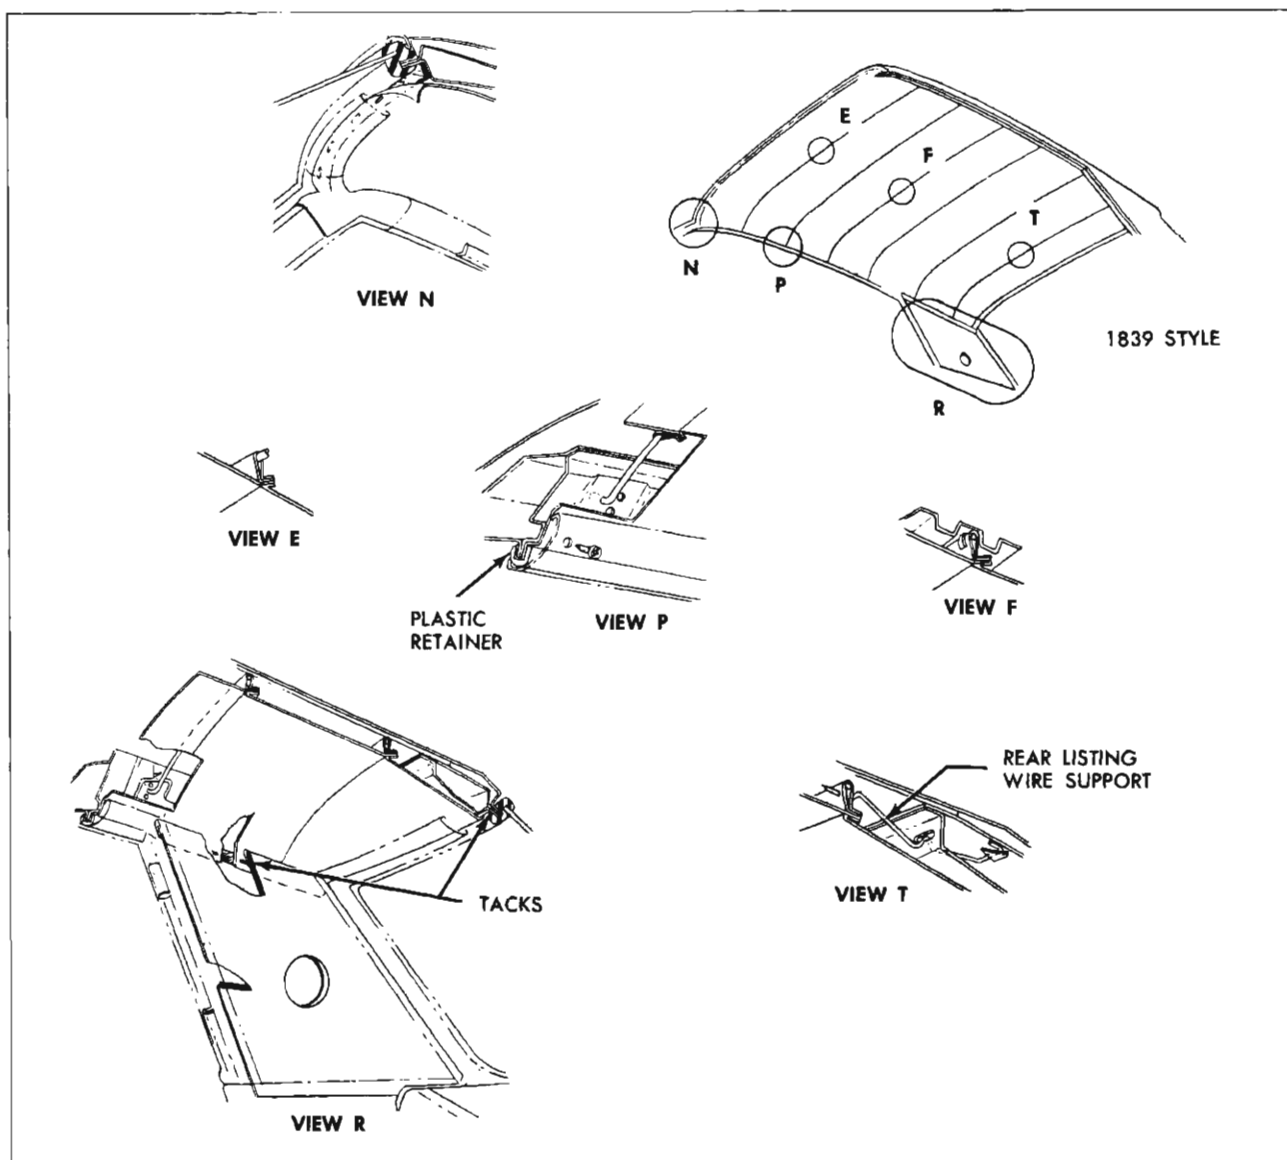
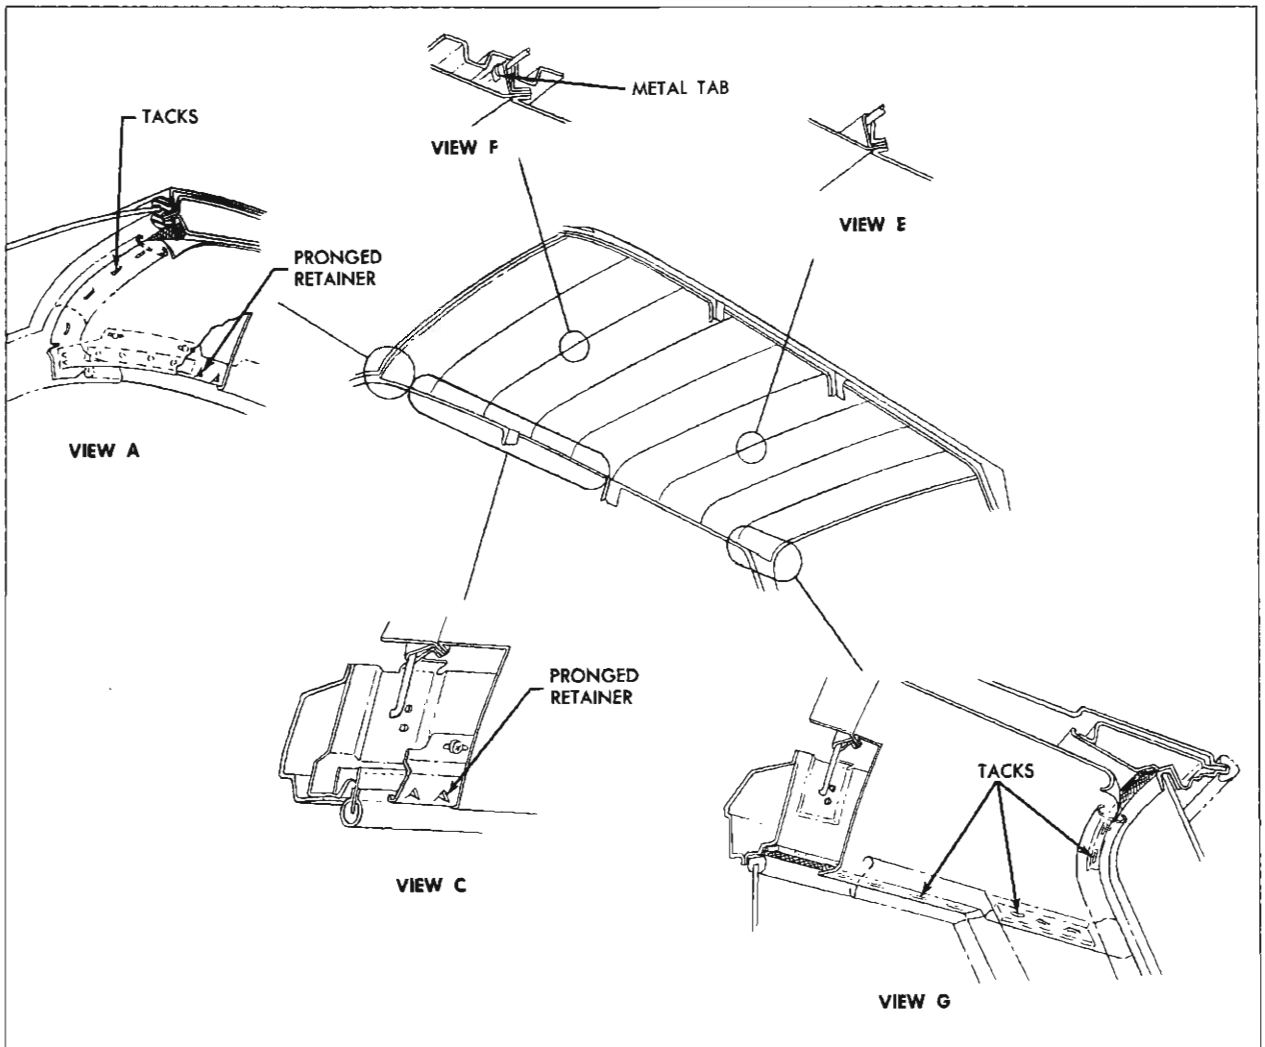
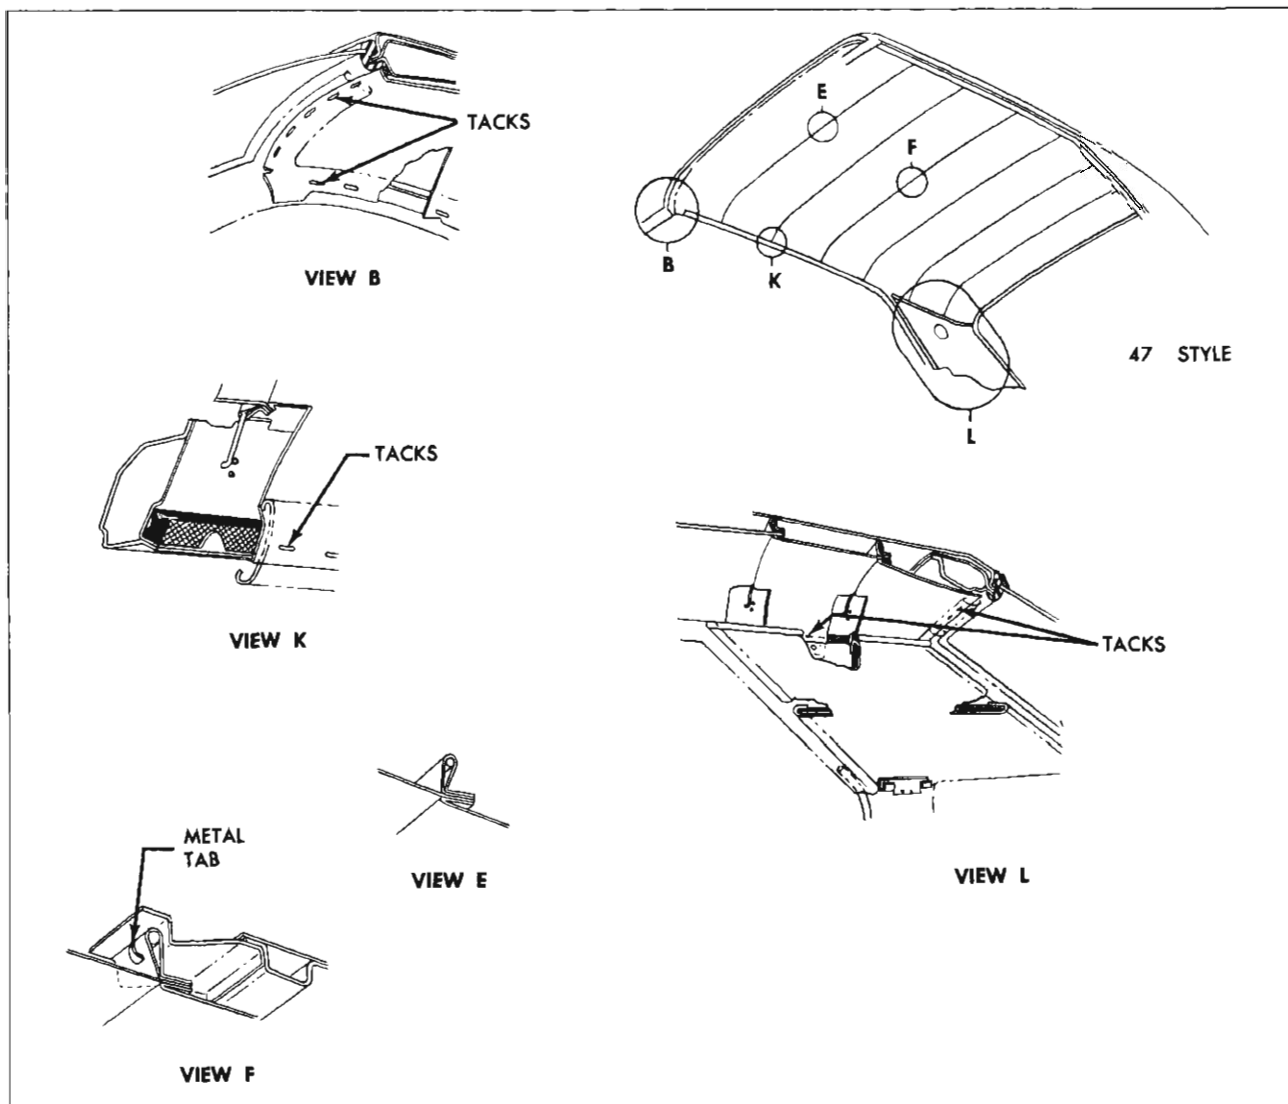
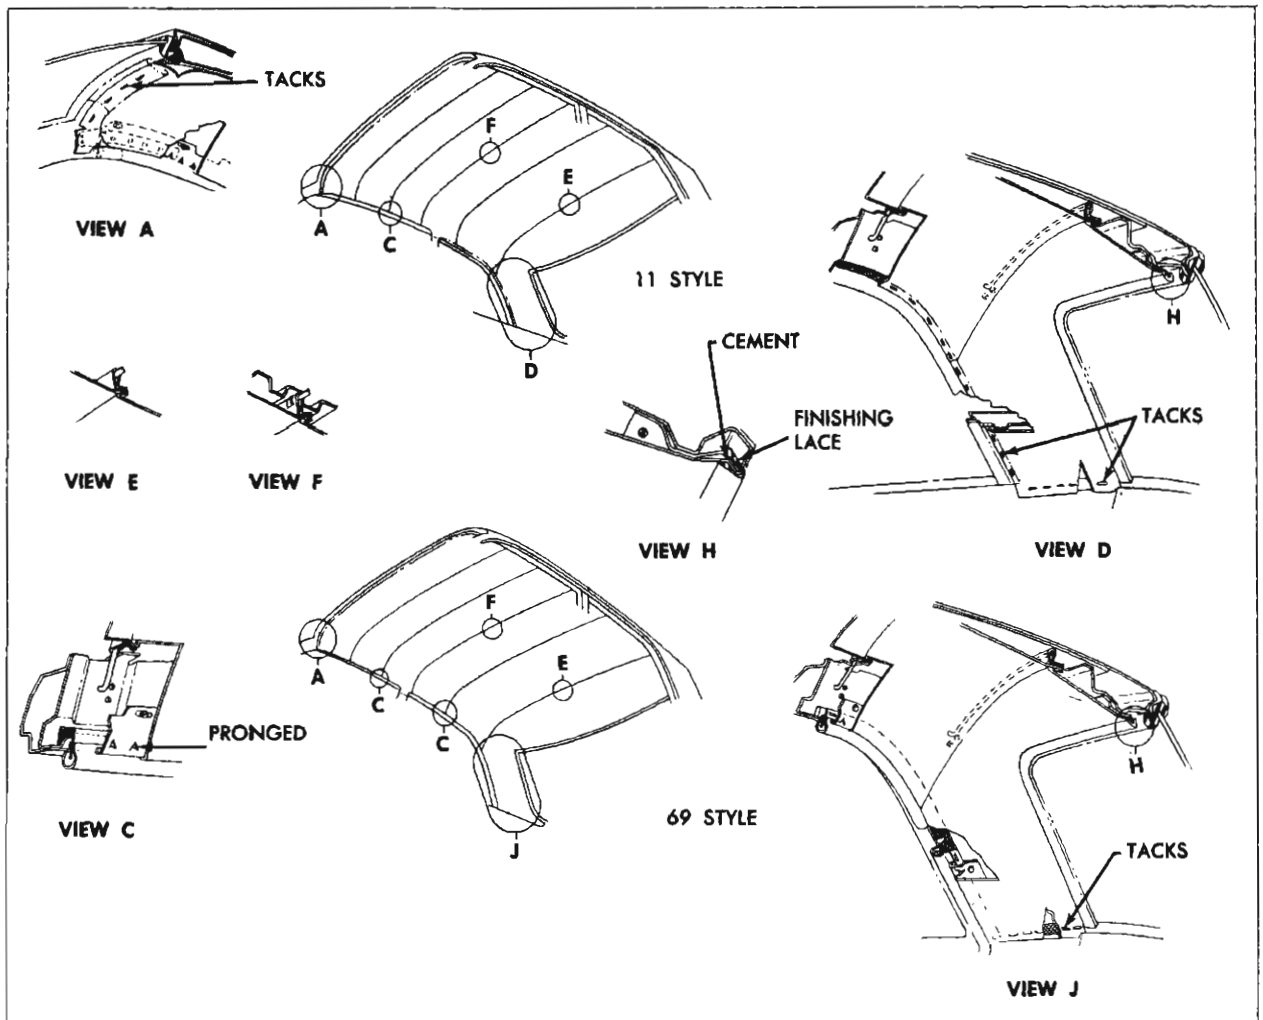

Fig. 99—Headlining Installation—39 Style
Fig. 100—Headlining Installation—35 and 45 Styles
Fig. 101—Headlining Installation—47 Style
Fig. 102—Headlining Installation—11 and 69 Styles
4. On "11", "69", "35" and "45" styles, use headlining inserting tool J-2772 or similar wide-bladed tool and carefully disengage headlining from pronged retainer on side roof rails over door openings (View "C", fig. 100 and fig. 102).
5. On "11", "35", and "45" styles, remove tacks or staples securing headlining at rear quarter windows (View "D", fig. 102 and View "G", fig. 100).
On "47" style, remove tacks or staples along side roof rails and rear quarter areas (View "K", fig. 101).
On "39" style, remove plastic retainer from side roof rail pinchweld flange (View "P", fig. 99).
9. At front roof bow, bend down metal tabs securing listing wire (View "F", fig. 99, fig. 100, fig. 101, fig. 102).
10. Remove rear listing wire and pocket from rear listing wire support on "39" styles (View "T", fig. 99).
- tain cement is applied to both sides of retainer (Views "D" and "J", fig. 102).
3. Lift entire headlining assembly into body and install rear listing wire into side roof rails. On "39" styles, install rear listing wire and pocket on rear listing wire support (View "T", fig. 99).
6. At front roof bow, bend up metal tabs securing listing wire and listing wire pocket (View "F", figs. 99 through 102).
7. Using headlining inserting or suitable wide-bladed tool, install headlining around back window retainer on "11" and "69" styles. On all other styles, stretch and stay tack headlining at back window or back body opening. Stay tack headlining in rear quarter area where required (View "R", fig. 99, View "G", fig. 100, View "D" and "J", fig. 102 and View "L", fig. 101).
10. On "11", "69", "35" and "45" styles, use headlining inserting tool, J-2772, or similar wide-bladed tool and carefully tuck edge of headlining under pronged retainer along both side roof rails (View "C", fig. 100 and fig. 102). Permanently tack or staple headlining at side roof rails on "47" styles (View "K", fig. 101). On "39" style, use headlining inserting tool and permanently install edge of headlining around side roof rail pinchweld and replace plastic retainer (View "D", fig. 99).